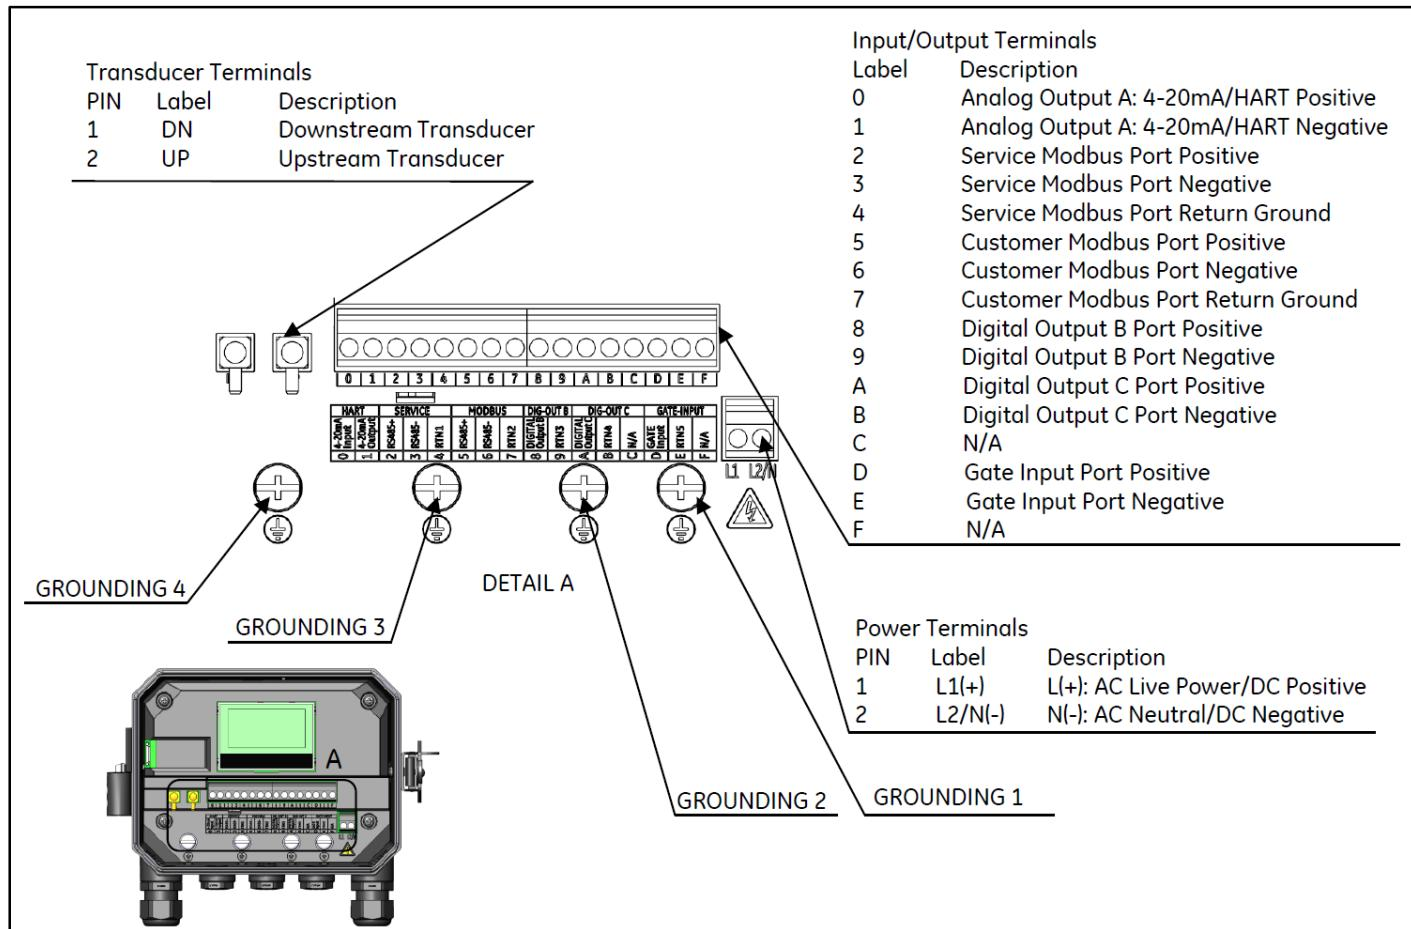

Figure 14: Wiring Diagram
Refer to *Figure 14* to locate terminal block and connect the line power as follows:
2. Connect the ground lead to the internal ground connection (GROUNDING 1) located on the bottom panel of the enclosure (See *Figure 14*).
3. Connect the neutral or line lead (or the negative – DC power lead) to L2/N(-) and the line power lead (or the positive +DC power lead) to L1(+) as shown in *Figure 14*.
2. Connect the cable connector with yellow "DN" jacket on the cable to DN and connect cable connector with white "UP" jacket on the cable to UP as shown in *Figure 14*. Then, secure the cable gland.
3. Refer to *Figure 14* for the location of terminal block I/O and wire the terminal block as shown. Secure the cable clamp.
To wiring Modbus RS485 serial port, refer to *Figure 14* and complete the following steps: